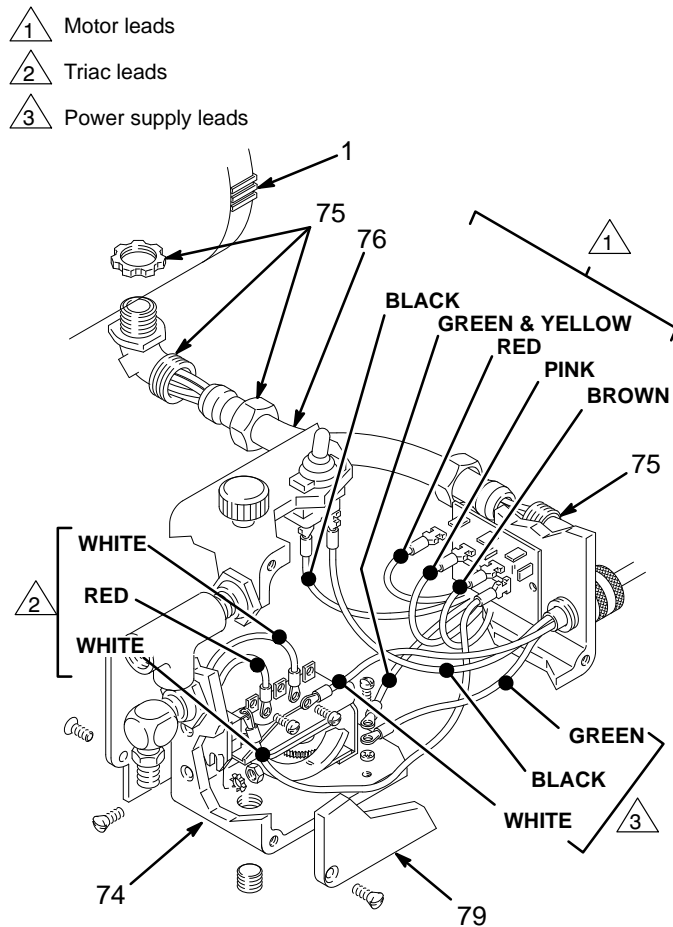

Fig. 14
4. Remove the screws (78) and the cover (79) from the pressure control (74). See Fig. 14.